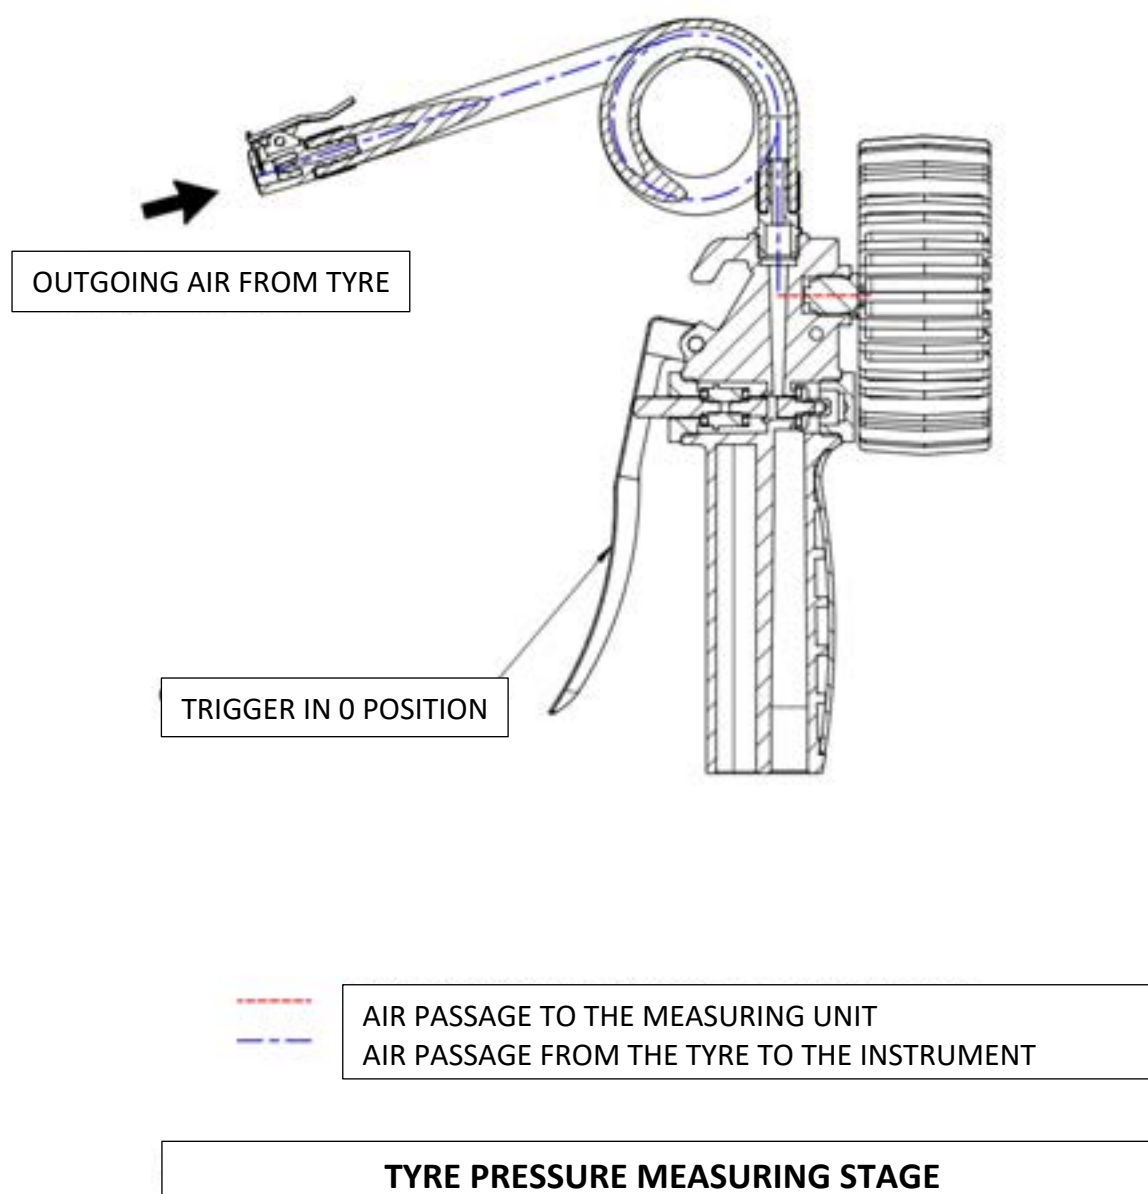

FIG. 7 – TYRE PRESSURE GAUGE “60 G/T” (vers. 63 mm)
- Tyre pressure measuring stage (Fig. 7)